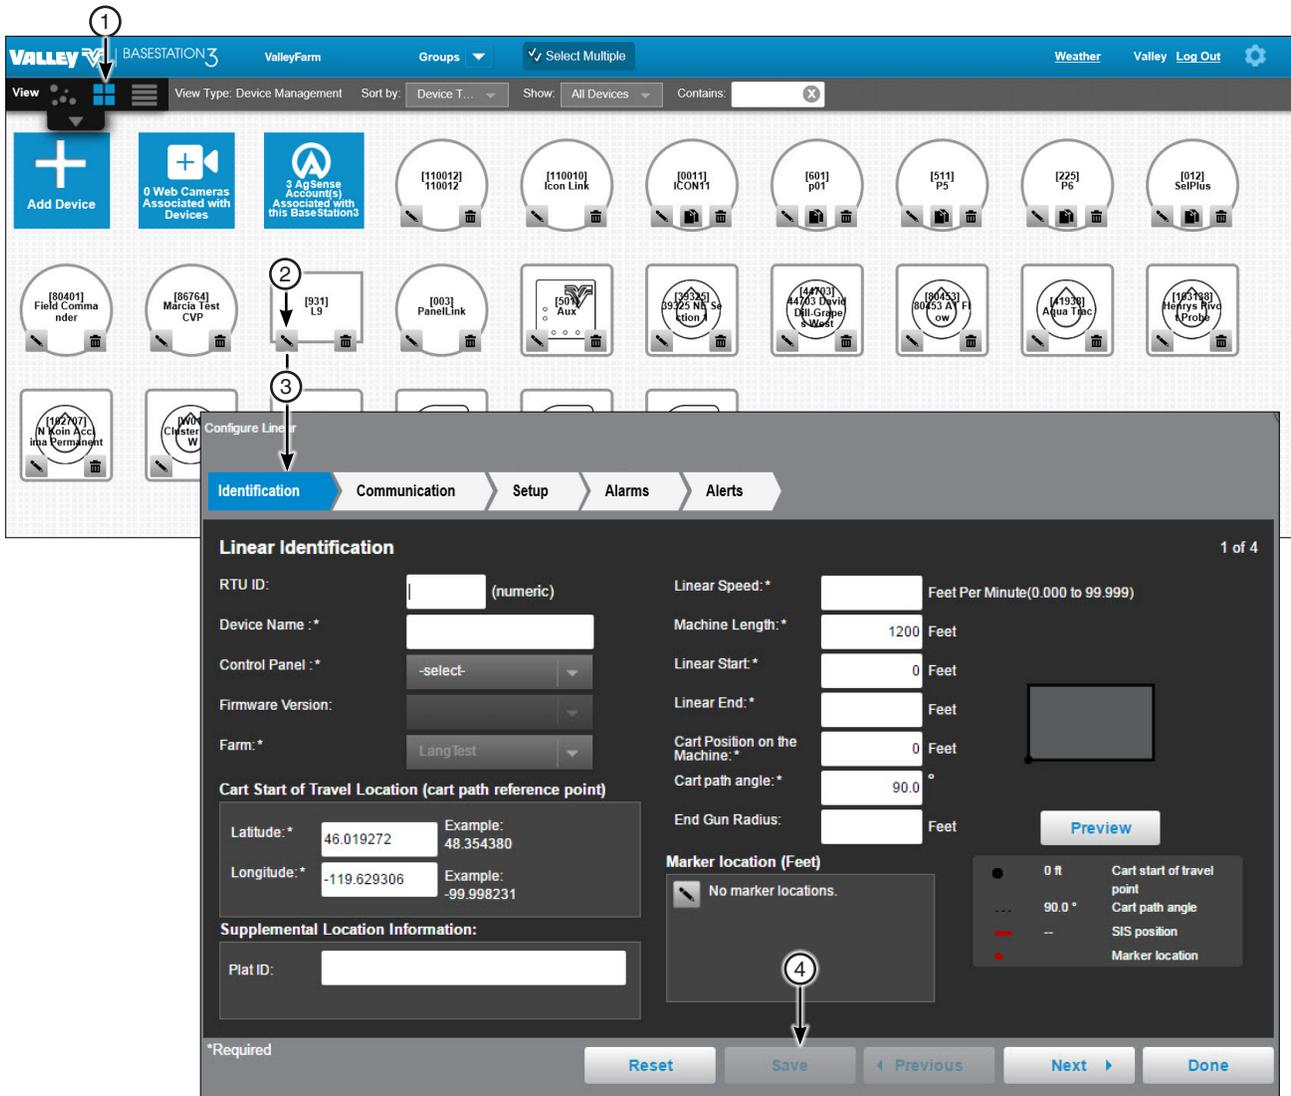

Figure 142-1 1. Tile View Device Management Screen 2. Change 3. Configure Device 4. Save
**Tile View:** To change the configuration of a device in Tile View, refer to Figure 142-1 and do the following.